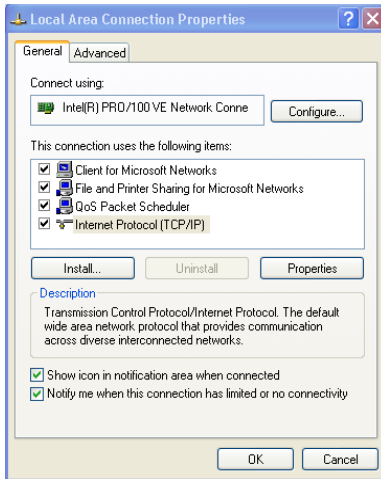

Figure 4: Local Area Connection Properties Window
5. Select the Internet Protocol (TCP/IP) and click the **Properties** Button (see Figure 4).